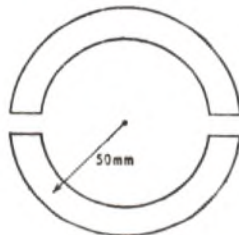

Fig. 1
Q. 5. A laminated iron core is constructed of semi-circular iron stampings having mean radius 50 mm with two equal air gaps as in Fig. 1.